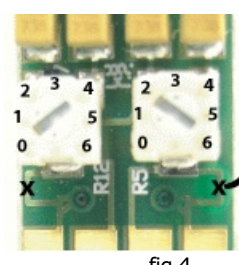

fig 4
- 2) For each channel that you wish to have a volume control, a trace must be cut on the circuit board. The trace cut is shown in fig 4.